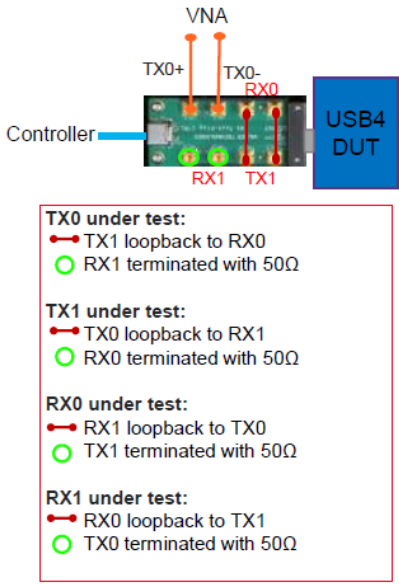

Figure 172 SMP test fixture - Tx/Rx lane switching
- 8 In case of SMP test fixture, Tx/Rx lane under test can be switched as shown in Figure 172.